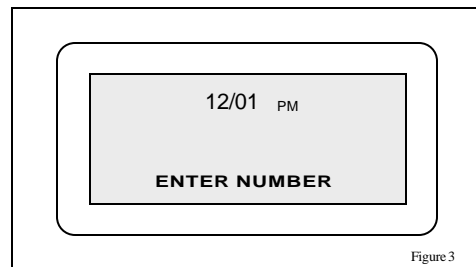

Figure 3
3. Press the “**STORE**” key again and the display will read “ENTER NUMBER” (figure 3).